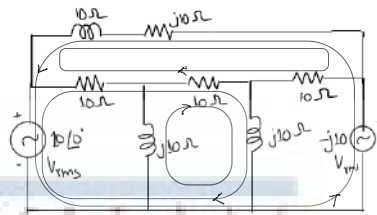

Figure 6: Figure for question 14 (a).
14. (a) For the network shown in Fig. 6 assign reference directions and draw the network graph. Obtain the connection matrix between branch currents and the loop currents in the three loops shown in the network diagram. Determine the loop impedance matrix of the network. (8)